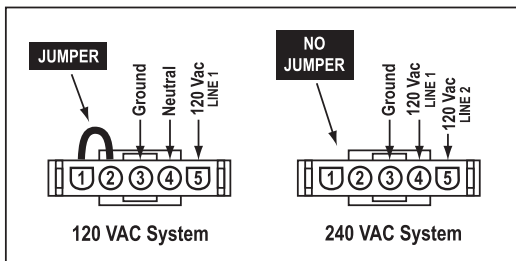

Figure5
- If system is wired for 120VAC power, verify a jumper wire is installed between positions 1 and 2 of the power cord connector. On systems wired for 240 VAC, the jumper wire should be removed [Figure 5].
8. Check the voltage between positions 1 and 4 of the communication cable connector [Figure 5].